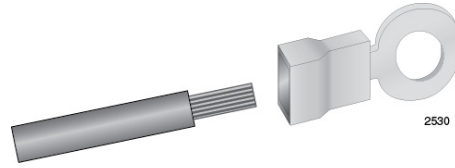

Figure 30. Attaching the Stranded Grounding Wire to the Ring Lug
2. Insert the grounding wire into the ring lug and use a crimping tool to secure it. Refer to Figure 30 on page 80.